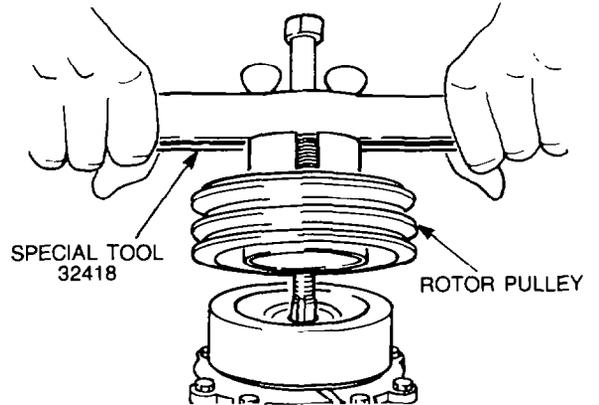

Figure 22 — Rotor Pulley — Removal
- f. Install the screws of the puller (part of special tool set 32418) into the threaded holes in the jaws, then turn the centre bolt of the puller in a clockwise direction and remove the rotor pulley (see Fig. 22).